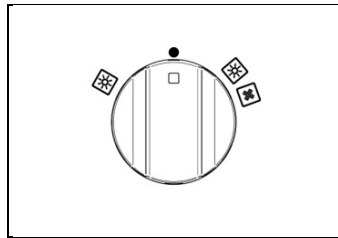

Fig 24A
Using the 2 + 0 switch – the symbol  indicates that the electric fan, and the oven light have been turned on (Fig.24A-24B).
– the symbol  indicates that only the oven light is turned on (Fig.24A-24B).